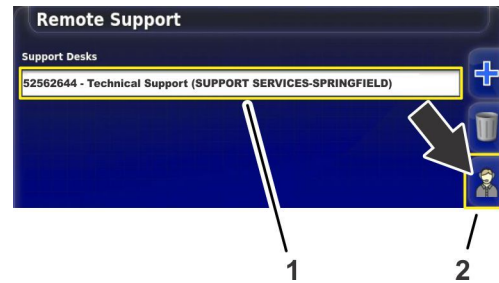

Figure 214
1. Press the SUPPORT DESK icon for customer service, saved to the support desk list (Figure 214).
2. Press the REQUEST SUPPORT FROM DESK icon (Figure 214).